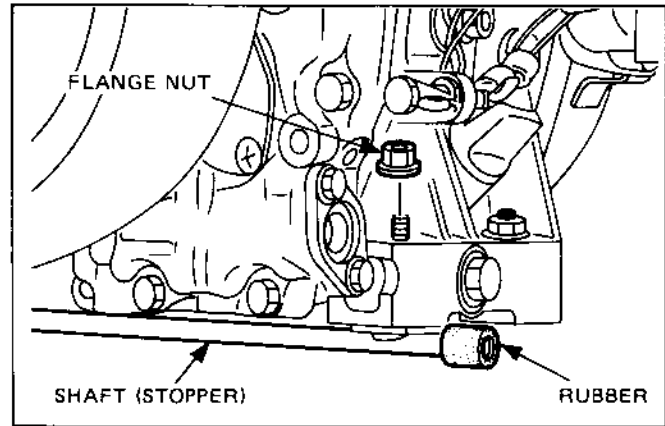

Fig. 10-36
- (6) Cover the both ends of **SHAFT (STOPPER)** with **RUBBERS**. Push **RUBBERS** until they touch the crankcase. (See Fig. 10-36.)